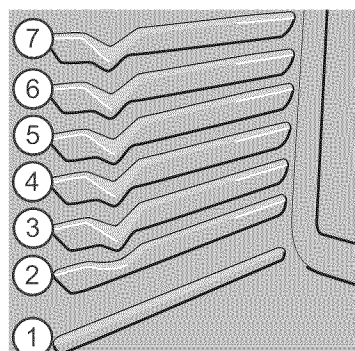

Fig. 9 Oven rack positions
- For best results when baking cakes using two oven racks, place racks in positions 3 and 6. (Fig. 9, on page 15)